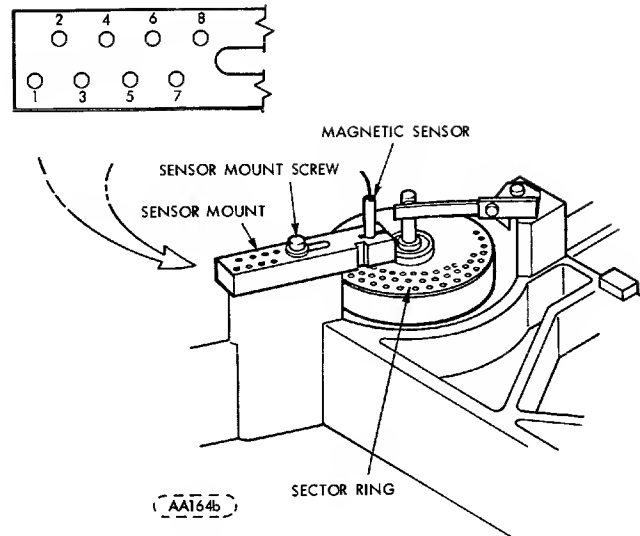

FIGURE 3-7. SECTOR OPTION CONVERSION
5. Loosen the sensor mount screw (see Figure 3-7).